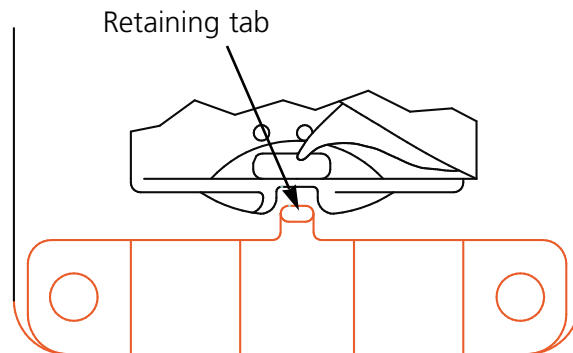

Figure 5-13
4. Check to make certain the retaining tab is still securing the inner basket of the rotary hook as shown in Figure 5-13. If the inner basket moves, it may cause a broken needle or a damaged hook.